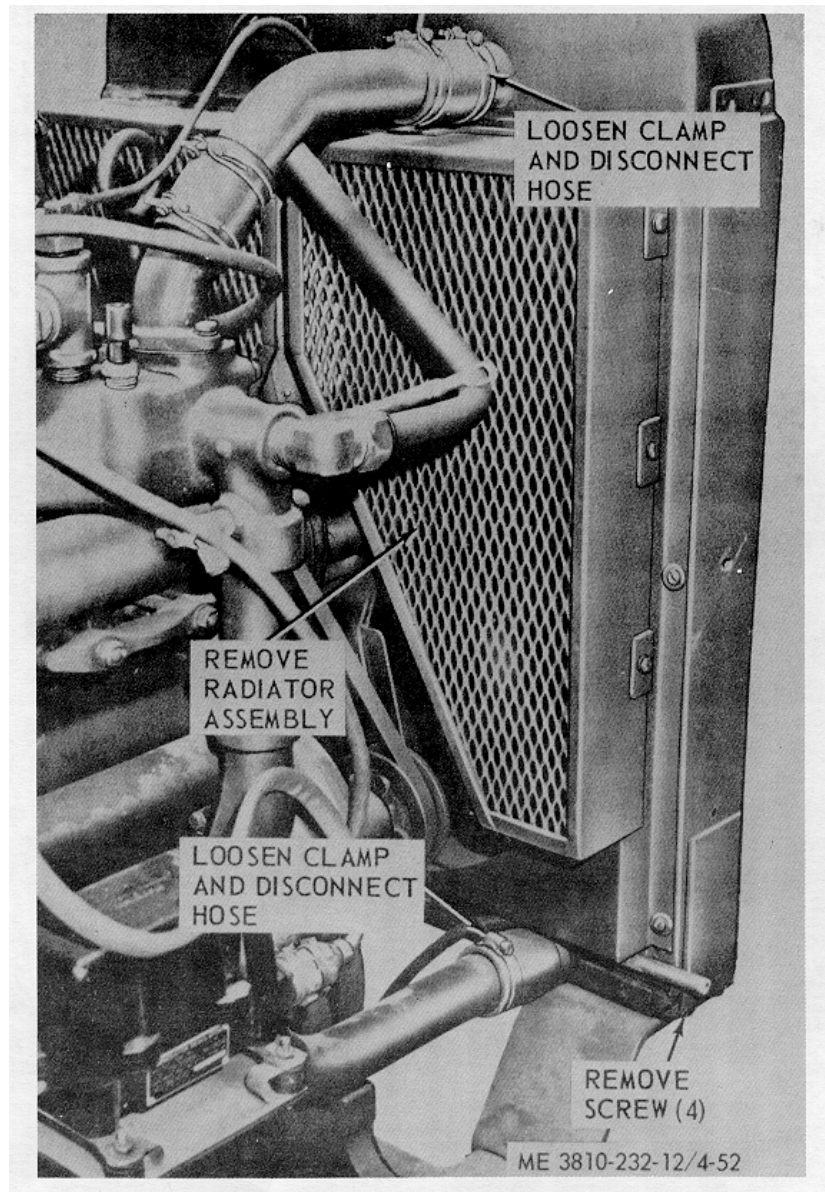

Figure 4-52. Crane engine radiator, removal and disassembly.
(3) Remove radiator as illustrated in figure 4-52.
(1) Install radiator as illustrated in figure 4-52.
(2) Install radiator fan guards as instructed in paragraph 4-57.
(3) Service cooling system as instructed in paragraph 3-21.